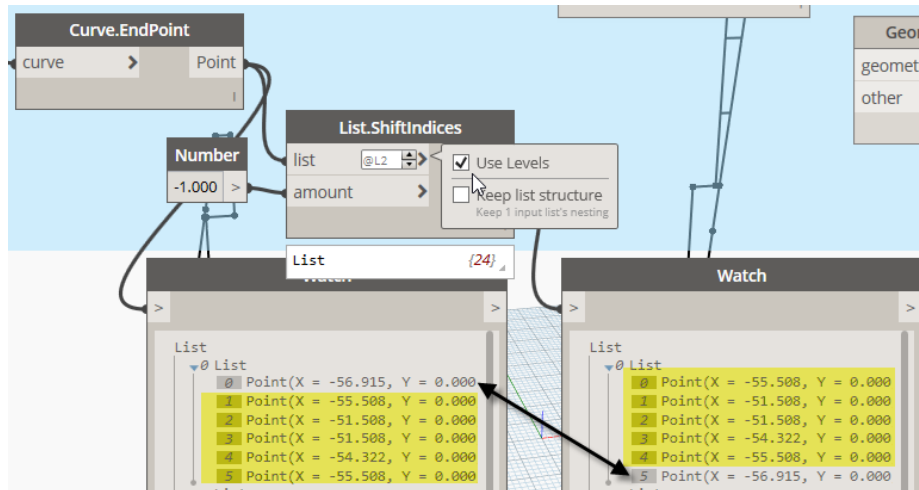

Figure 75
35. Click the small chevron next to the list port and check Use Levels. Make sure it is set to: **@L2** and run the graph (see Figure 75).